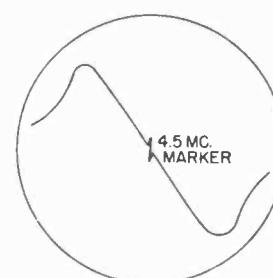

FIG. 14
The physical location of all coils and adjustments is shown in Figure 14. The output of the R.F. generator should be checked by means of the crystal calibrator to make certain that it is exactly on frequency in all cases.
3. Reduce the generator sweep to 300 Kc. and adjust discriminator trimmers C141, C142 and C143 so that (1) the 4.5 Mc. marker is exactly in the center of the curve, (2) the curve is linear between 4.55 Mc. and 4.45 Mc. and (3) the amplitude is the greatest obtainable. See Figure 14 for desired response.